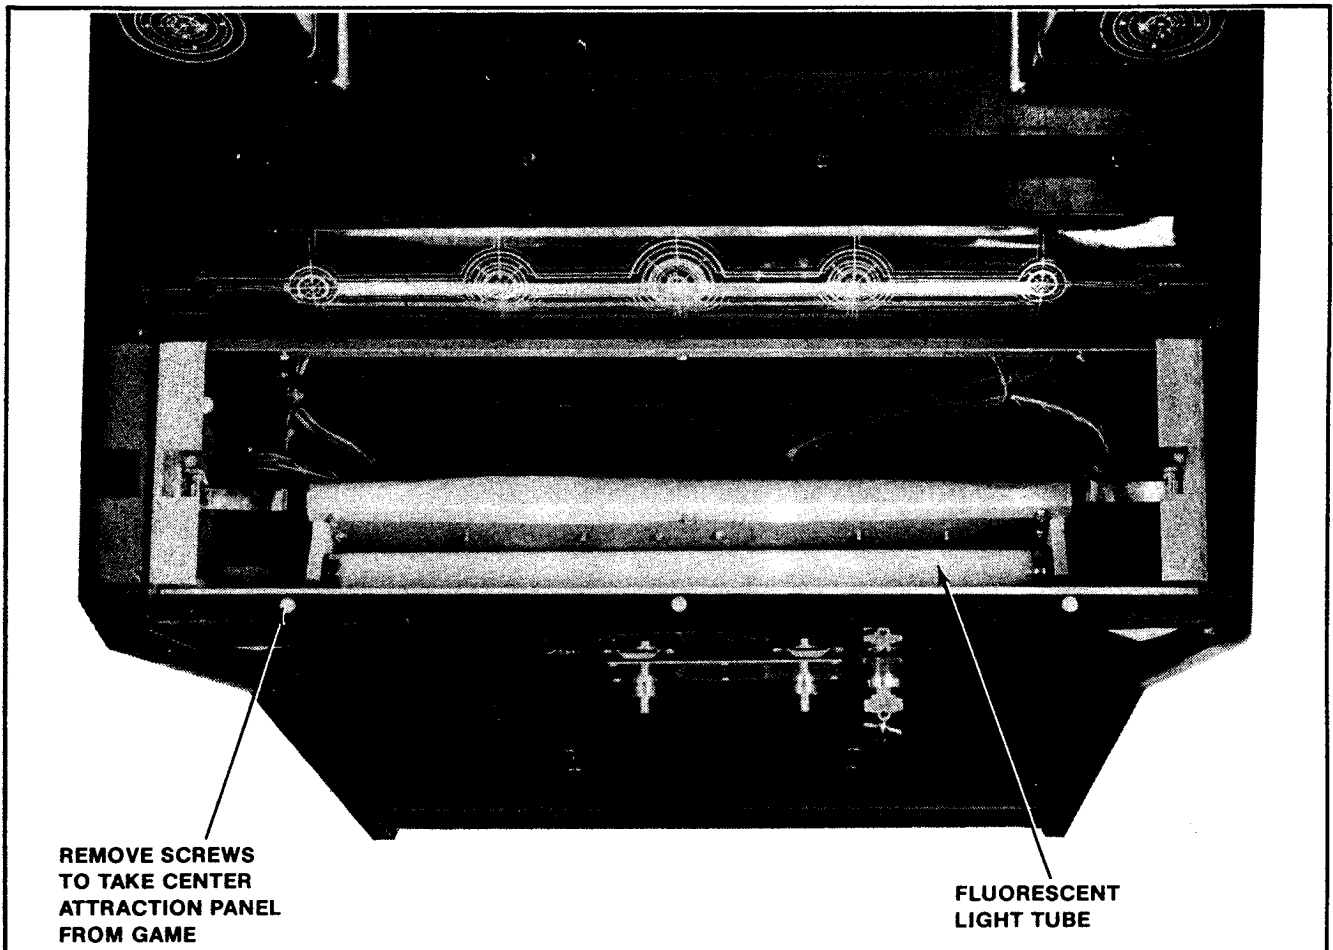

Figure 4-18 Opening Center Attraction Panel — Upright
2. Remove the control panel as described previously. This exposes the attraction panel fluorescent light tube and its mounting bracket assembly. See Figure 4-18.
3. Replacement of the fluorescent tube mounting bracket assembly. See Figure 4-18.
- Remove the screws from top support bracket and the screws along its base which secure the mounting bracket and the center attraction panel assembly to the cabinet as shown in Figure 4-18.